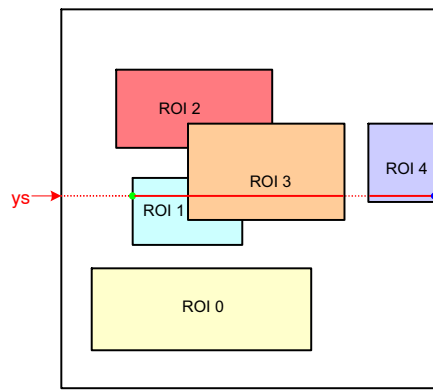

Figure 28. Scanning the Image Array with Five Windows
Figure 28 illustrates a practical example of a configuration with five windows. The current position of the read pointer (ys) is indicated by a red line crossing the image array. For this position of the read pointer, three windows need to be read out. The initial start position for the x-kernel pointer is the x-start configuration of ROI1. Kernels are scanned up to the ROI3 x-end position. From there, the x-pointer jumps to the next window, which is ROI4 in this illustration. When reaching ROI4's x-end position, the read pointer is incremented to the next line and xs is reinitialized to the starting position of ROI1.
- The read pointer is not necessarily incremented by one, but depending on the configuration, it can jump in y-direction. In Figure 28, this is the case when reaching the end of ROI0 where the read pointer jumps to the y-start position of ROI1